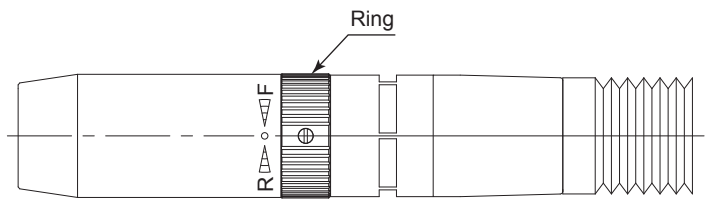

Fig. 5
- (1) Supply air pressure to the Air Line Kit.
- (2) Supply air from the air compressor and turn the Regulator Knob to set air pressure between 0.3 - 0.45 MPa (43.5 - 65.3psi).
- (3) Motor will be rotated by turning the Ring Switch of Air Motor toward (" F : FWD." or " R : REV.") in Fig.5 and stepping on Foot Control.